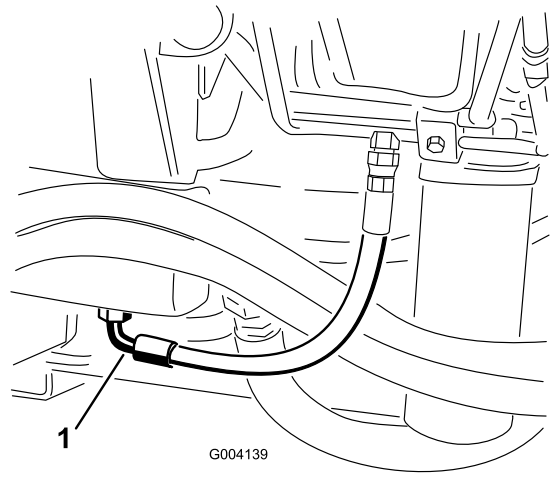

Figure 100
3. Place a large drain pan under the fitting secured to the bottom of the hydraulic-fluid reservoir (Figure 100).